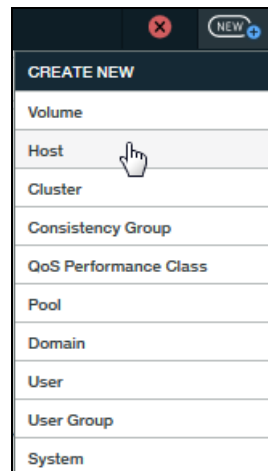

Figure 1-27 The Create New (hosts and clusters) menu
1. From the main GUI dashboard, click the **New** icon and select **Host** from the menu (see Figure 1-27).